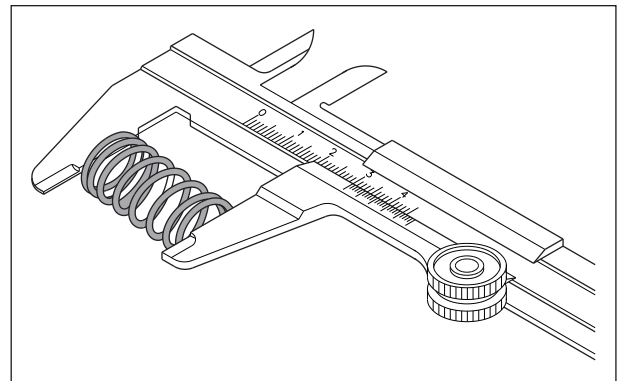

Fig. 3.68
- Measure the free length of the valve springs. If the length is smaller than the service limit, replace the springs. (Fig. 3.68)